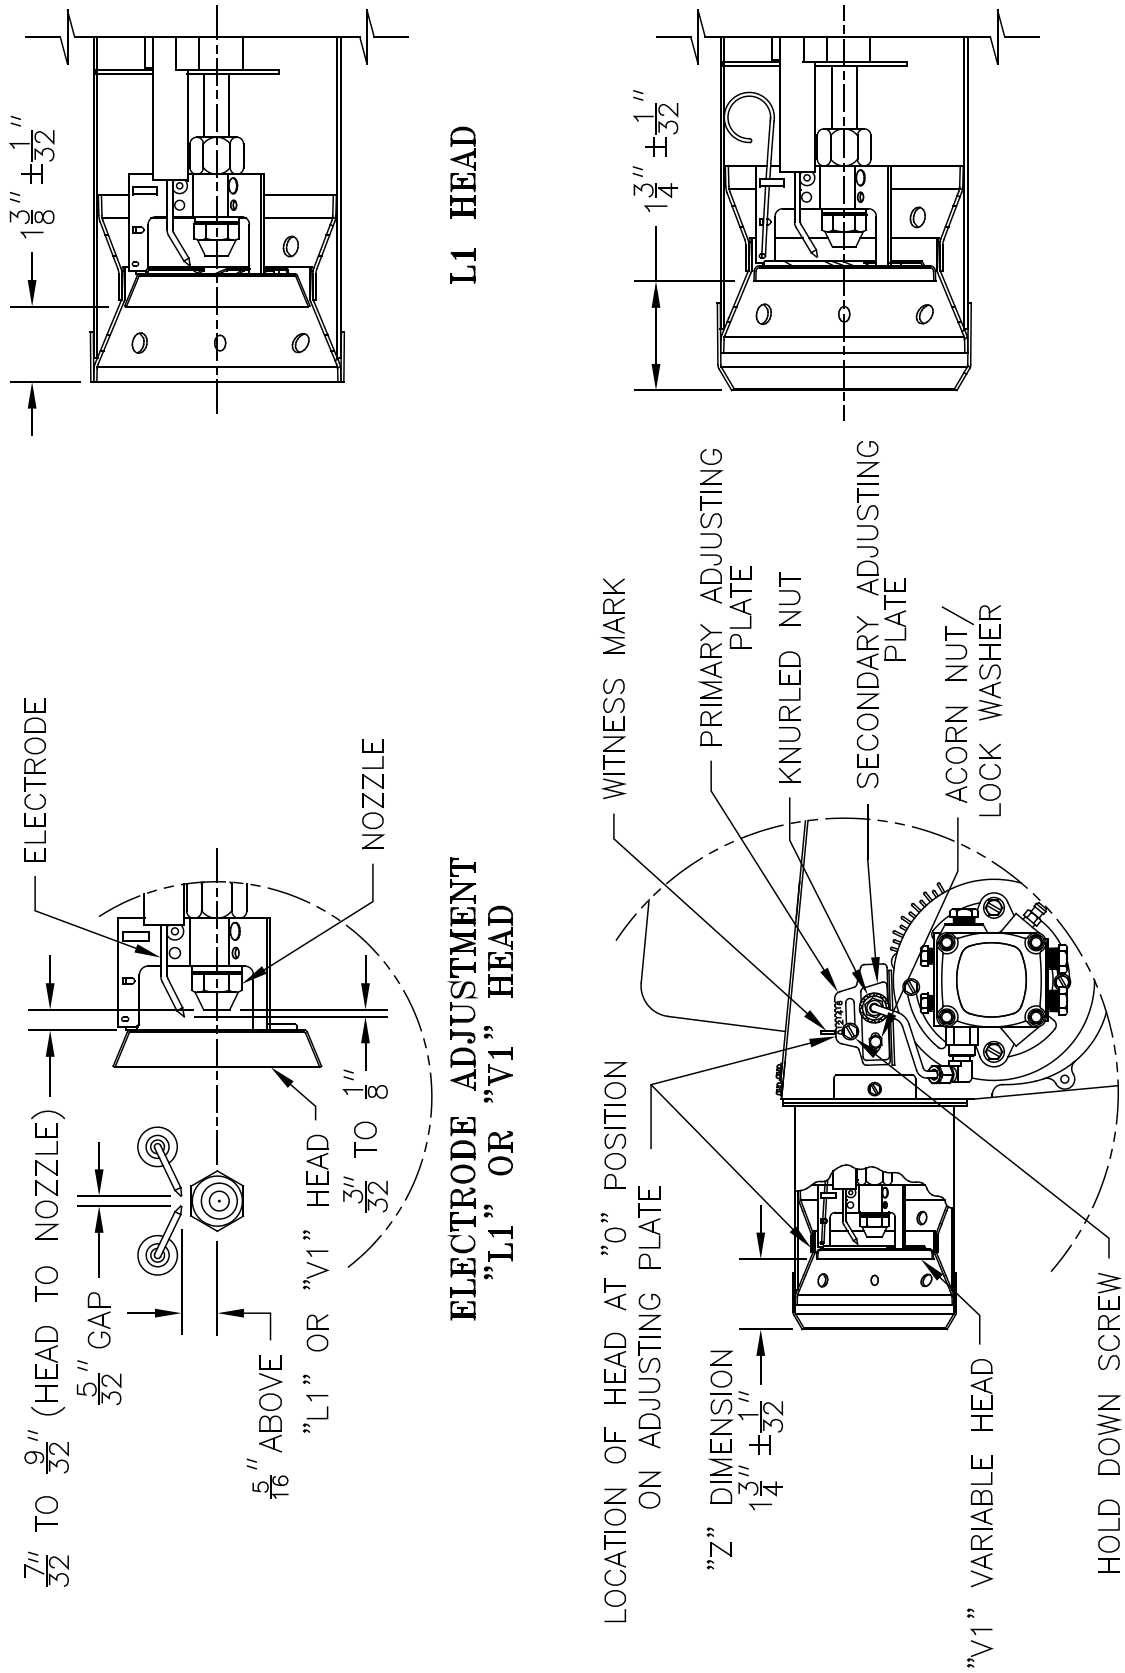

Figure 27: "L1" and "V1" Head Electrode Positioning and Gun Setting (Beckett AFG)
- Inspect Beckett head setting on left side of burner housing by insuring the blue line MD(V1) or the line on the label MB(L1) are aligned, readjust if necessary. Refer to Figure 27 and Table 14A at the rear of this manual.
Beckett MD(V1) (variable) Head burners have the ability to control air by moving the head. It might be necessary to move the head forward or back one position at a time to optimize the smoke and CO₂ readings. See Figure 27 and Table 14A at the rear of this manual.